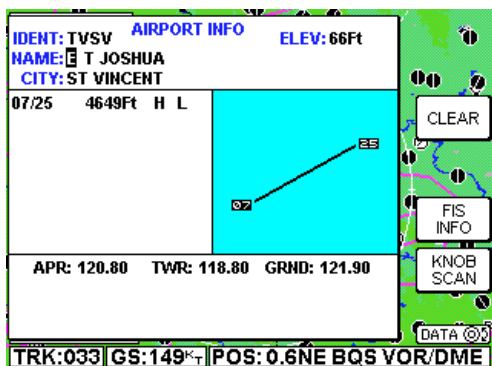

Figure 10
3. Turn the inner knob to select an **E** as in Figure 10.